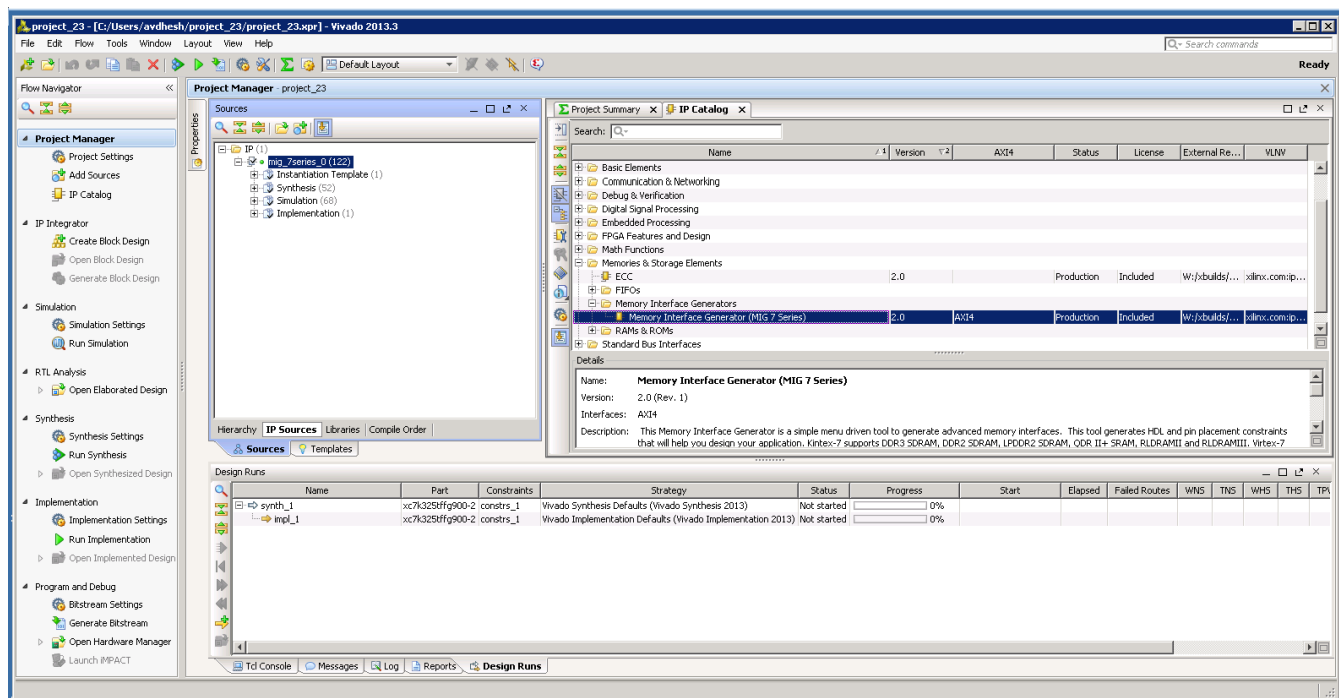

Figure 3-27: Vivado Tool Project Window (After IP Generation)
- After generating the MIG design, the project window appears as shown in Figure 3-27.